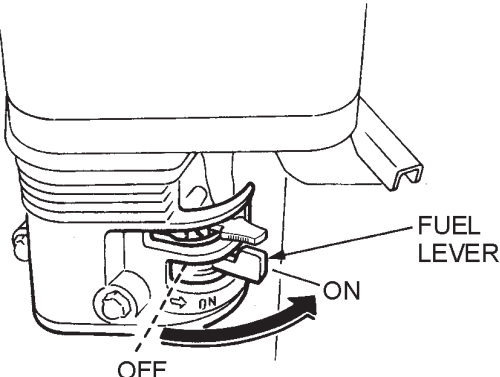

Figure 11. Engine Fuel Valve Lever
1. Place the engine *fuel valve lever* (Figure 11) to the "ON" position.
2. Place the engine **fuel valve lever** (Figure 11) in the **OFF** position.